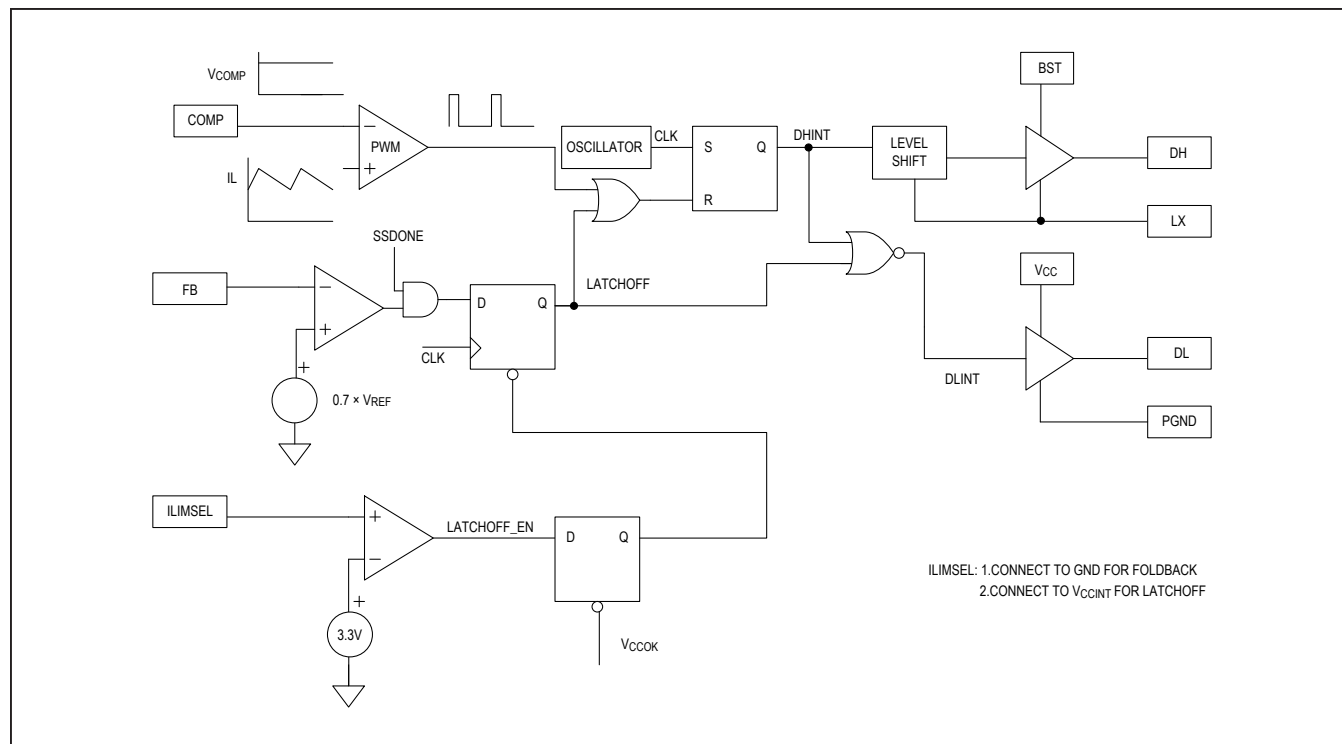

Figure 2. Current Limit Function Block Diagram
In latch-off mode, the controller gets shut down once the overcurrent occurs. To restart the part, either enable (EN) or the power supply to the MAX17557 must be cycled to turn on the part again. For more information, refer to the current limit function block diagram shown in Figure 2.